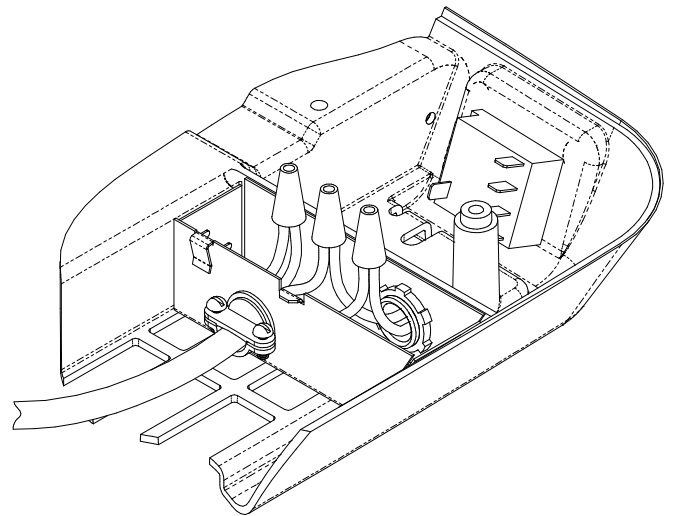

FIGURE 8
- F. Insert the supply wiring through the cable clamp and into the field wiring box so that 4 - 6” of supply conductor is inside the box. Secure the cable clamp over the supply wire sheath so that no movement is possible (See Figure 8).
- G. Connect the supply power conductors to the black and white pigtail wires and the supply ground wire to the green pigtail wire found in the field wiring box using the 3 provided wire nuts. **IMPORTANT** – Connect the black supply to the black pigtail and the white supply to the white pigtail. Using a U.L. approved electrical tape, secure the wire nuts to wires in a workmanlike manner (See Figure 8).